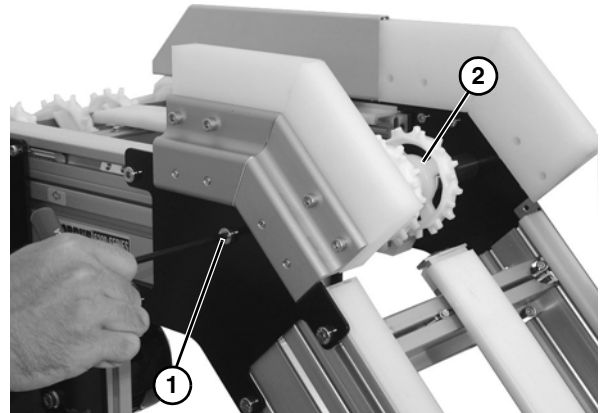

Figure 58
1. Remove socket head cap screw (**Figure 58, item 1**), on each side of upper knuckle assembly, and remove shaft and sprocket assembly (**Figure 58, item 2**).